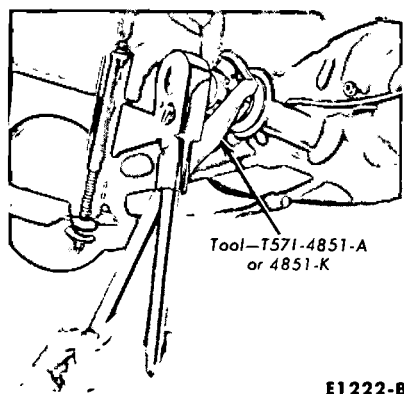

FIG. 10—Typical Drive Pinion Shaft Nut Removal
4. While holding the flange with the tool shown in Fig. 10, remove the integral pinion nut and washer.